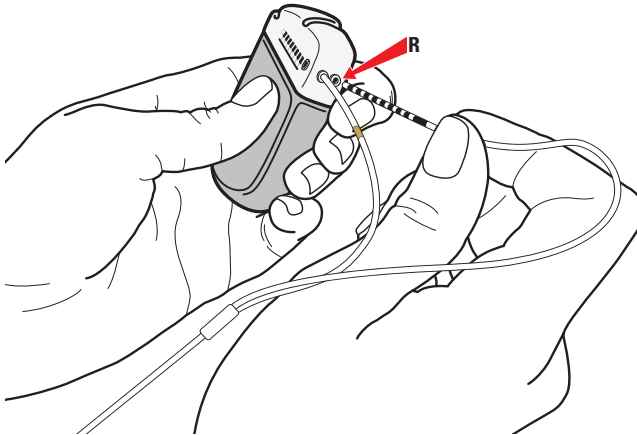

Figure 38. Connection to IPG Port R
2. Connect the Lead Extension tail with no marker band to Port R (or D) (Figure 38).